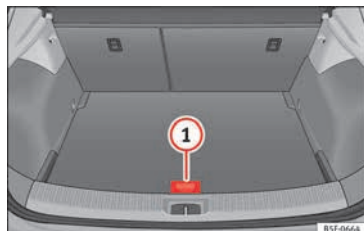

Fig. 177 Luggage compartment: variable floor
- Lift the variable floor using handle » **Fig. 177 ①**, pull it back and push the backrest of the rear seat until the movable part of the floor is resting on it.